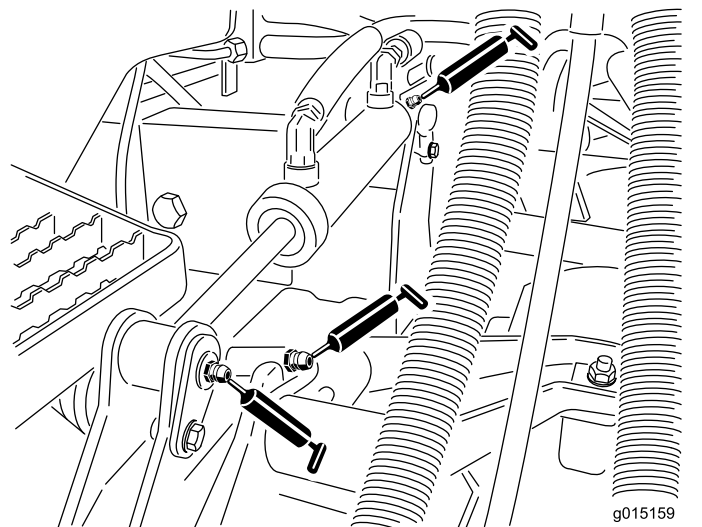

Figure 115
- Lift arm bushings (1 per cutting unit), refer to Figure 115
- Lift cylinder bushings (2 per cutting unit), refer to Figure 115